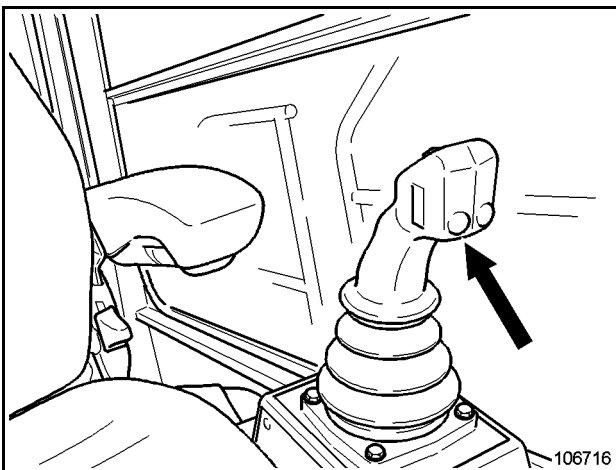

Fig. 2-134:
- ➔ Push key (arrow, Fig. 2-134:) in the left control lever once.
- ➔ Push key (arrow, Fig. 2-134:) in the left control lever once again.